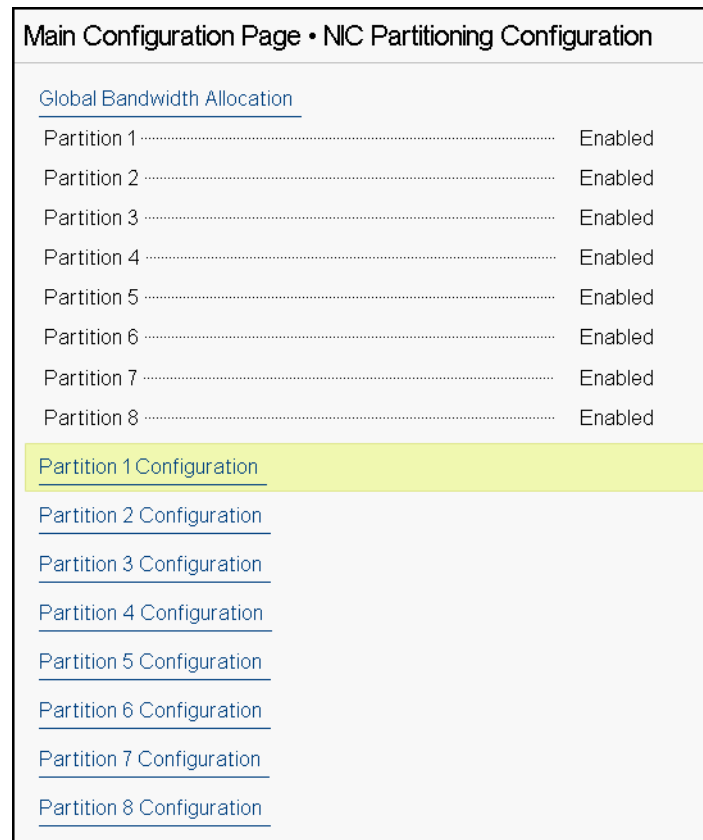

Figure 5-15. NIC Partitioning Configuration, Global Bandwidth Allocation
2. On the Partitions Configuration page (Figure 5-15), select **Global Bandwidth Allocation**.
1. To examine a specific partition configuration, on the NIC Partitioning Configuration page (Figure 5-15 on page 73), select **Partition *n* Configuration**. If NParEP is not enabled, only four partitions exist per port.